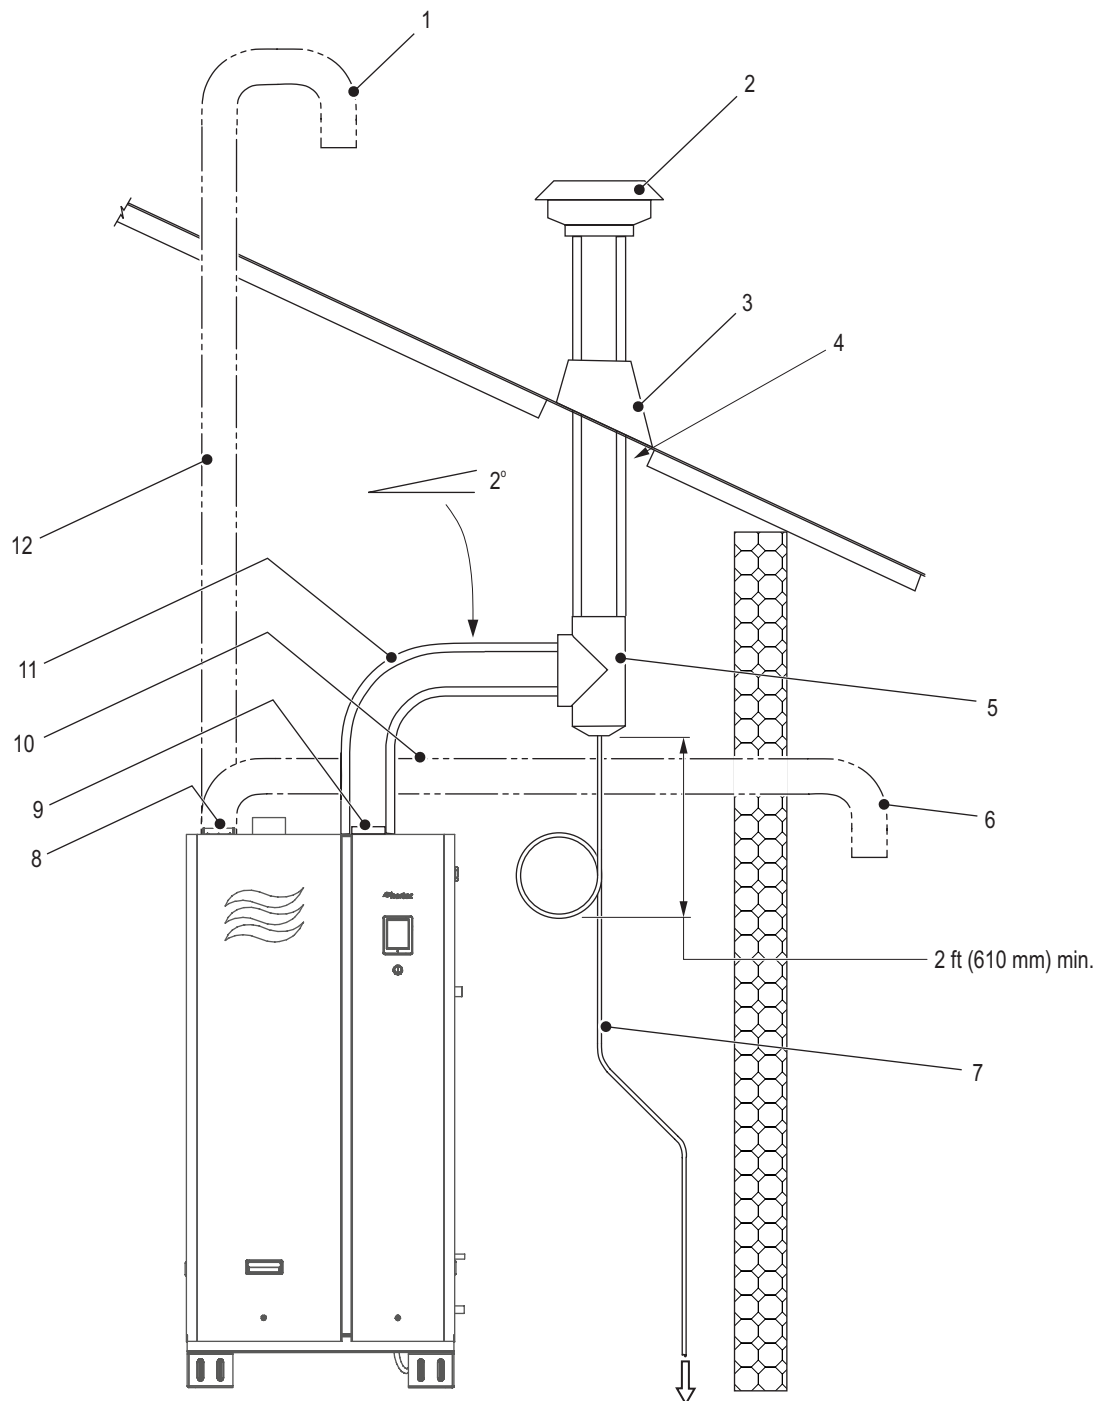
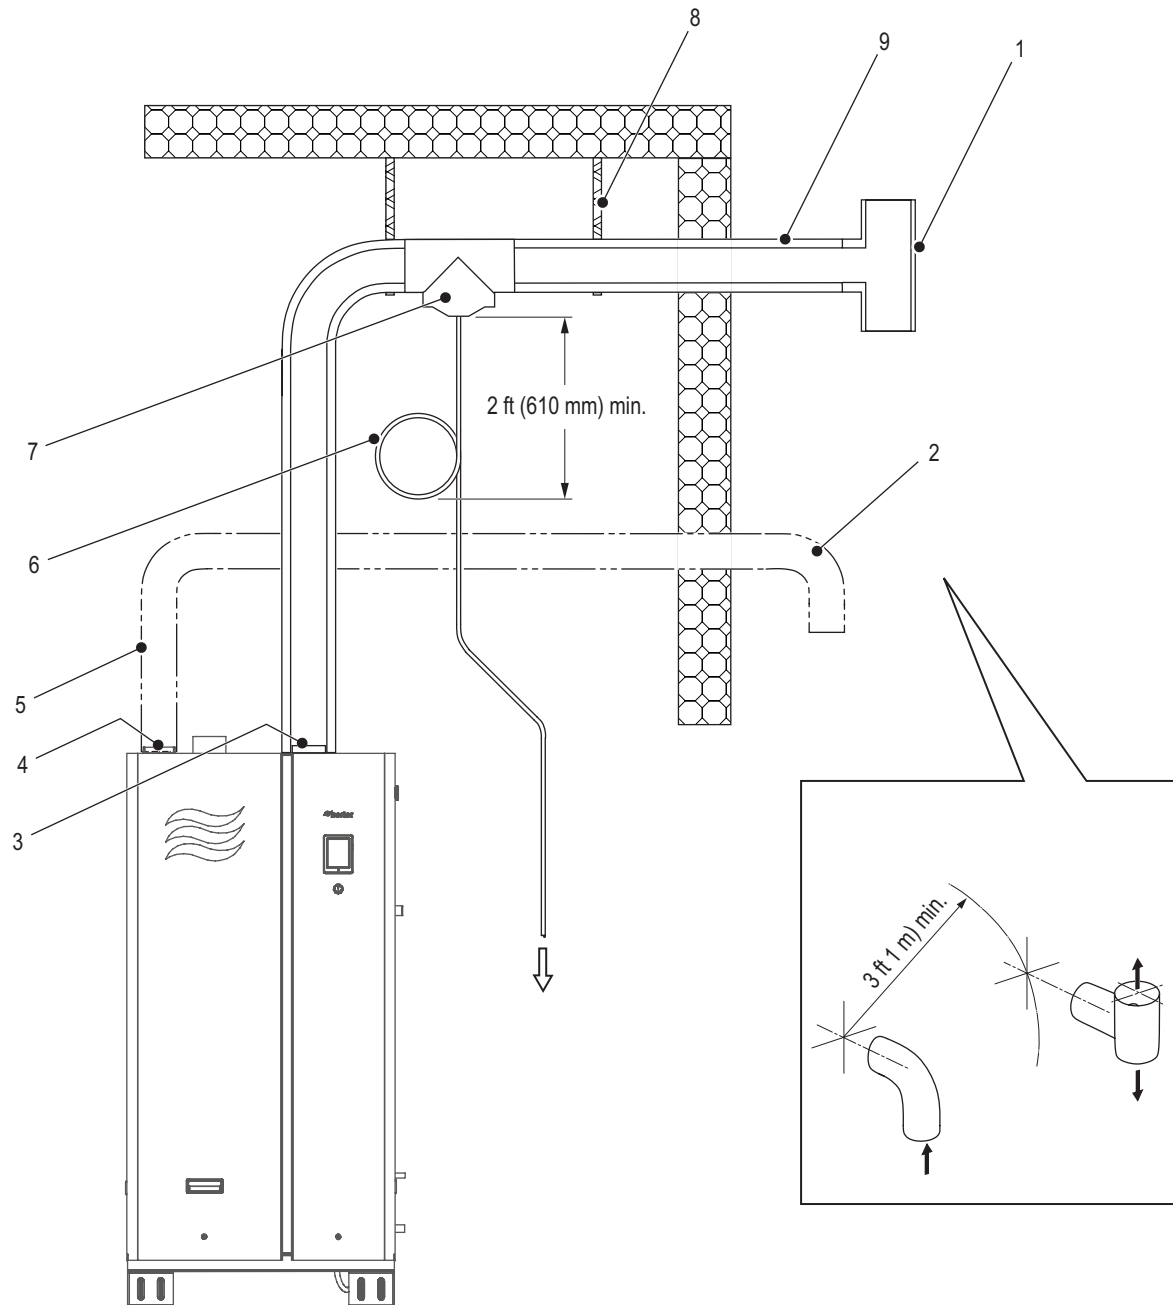

Figure 20: Vertical Venting (with Optional Sealed Combustion Hookup) – Category IV
Figure 21: Horizontal Venting (with Optional Sealed Combustion Hookup) – Category IV
Figure 20 on page 45 and Figure 21 on page 46 show the general types of venting arrangements. These are guidelines only. For the specific venting arrangements refer to "Exhaust Vent Installation \(CS/NX Model\)" on page 47. Adhere to all national or local codes.
Note: Figure 20 on page 45 and Figure 21 on page 46 show standard exhaust vent connections at the exhaust outlet on the unit. Refer to "Exhaust Vent Installation \(CS/NX Model\)" on page 47 for the exhaust vent connection for the CS/NX model.
- Category IV appliances can be vented vertically or horizontally, and can terminate on a rooftop or sidewall provided they meet the requirements of the National Fuel Gas Code (ANSI Z223.1), or CAN/CGA B149 Installation Codes. Refer to Figure 20 on page 45 and Figure 21 on page 46. Adhere to vent manufacturer's instructions.
- During normal operation, a Category IV appliance will create exhaust condensate. Install condensate drain lines according to vent manufacturer's instructions every 15 ft (4.5 m) on all horizontal runs, and at every horizontal-to-vertical transition. Install a full "Tee" with condensate port and trap at all horizontal-to-vertical transitions. The condensate trap must be minimum 12 in (300 mm) in diameter. Refer to Figure 20 on page 45 or Figure 21 on page 46. Install condensate neutralizer, if required by local code.